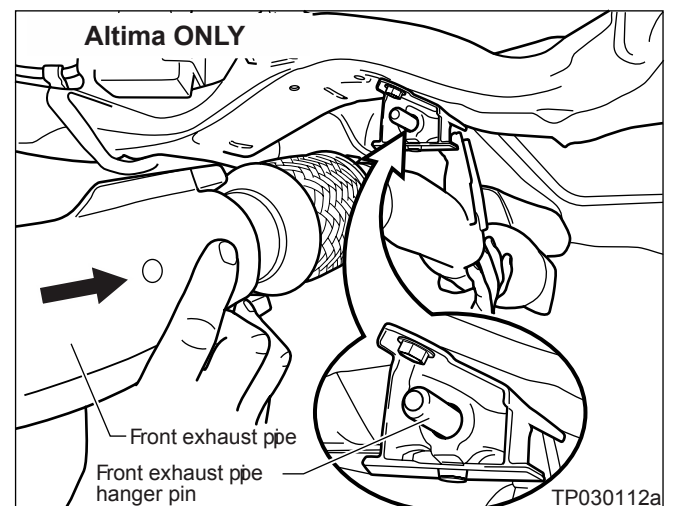

Figure 3
3. Slide the front exhaust pipe hanger pin out of the front exhaust pipe hanger (see Figure 3).